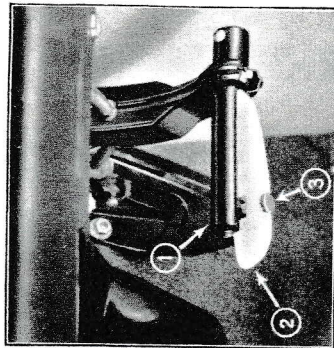

Figure 6
The mechanical brake consists of a swivelling handle 1 (fig. 6) placed within reach of the driver's right hand.
The brake is unlocked by pulling the handle with the right hand to release the ratchet device; press with the thumb the left hand end of handle 2 (fig. 6) so as to hold the ratchet, then push the handle completely forward.
The ratchet handle can be locked by a safety device. To operate the handle give the knurled screw 3 (fig. 6) a quarter turn.
When parking on a slope, it is essential to pull out handle 1 (fig. 6) very firmly.
- Apply the hand brake 1 (fig. 6) fully and lock it.